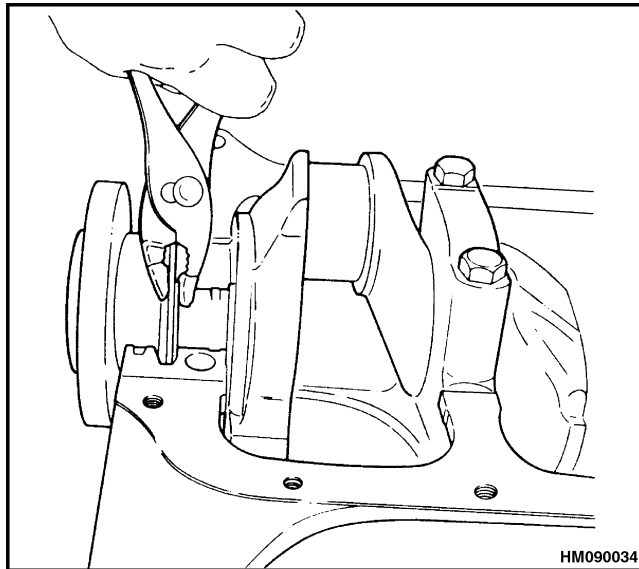

Figure 54. Rear Main Bearing Replacement
- b. Put some tape on a pair of pliers to make soft jaws. Use the pliers to hold the thrust surface of the bearing to the oil control ring of the crankshaft. See Figure 54. Turn the crankshaft to remove the upper bearing half.